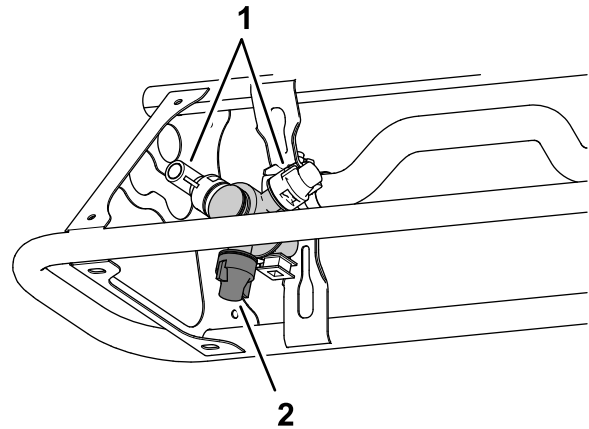

Figure 40
1. Ensure that the nozzles that you intend to use are in the active spray (down) position (Figure 40).